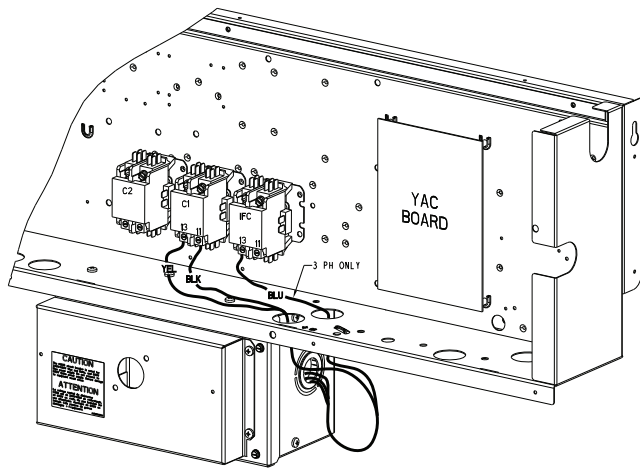

Fig. 37 — Location of HACR Enclosure
1. Remove the control box access panel. The HACR enclosure is located below the control box (see Fig. 37).